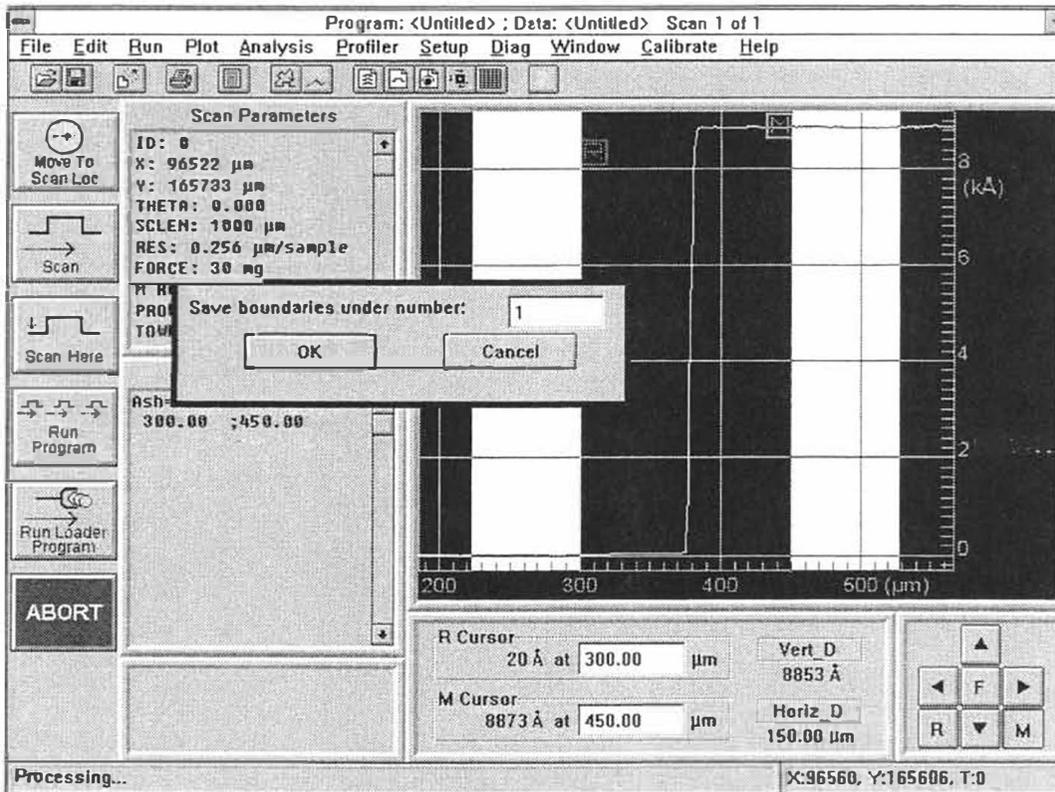

Figure 4-12. Saving Boundaries
3. Click-on "PLOT" from the menu bar. When the plot menu is displayed, click-on "REPLOTT". The system will automatically replot the profile trace with the new boundaries similar to Figure 4-12.
1. To save the new set of boundaries, click-on "Plot" and click-on "Save Boundaries". A dialog box will pop-up requesting an identification number under which to save the boundaries (see Figure 4-12). Any number between 1 and 9 may be used.